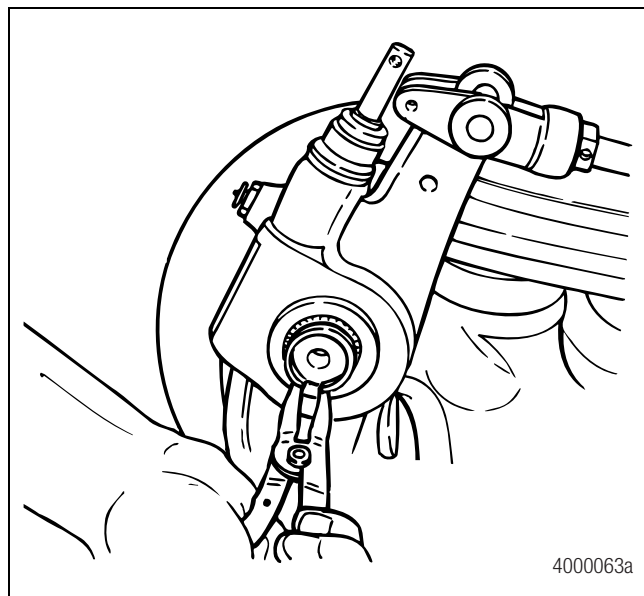

Figure 6.22
4. Install the slack adjuster retaining ring at the adjuster end of the camshaft. Figure 6.22.